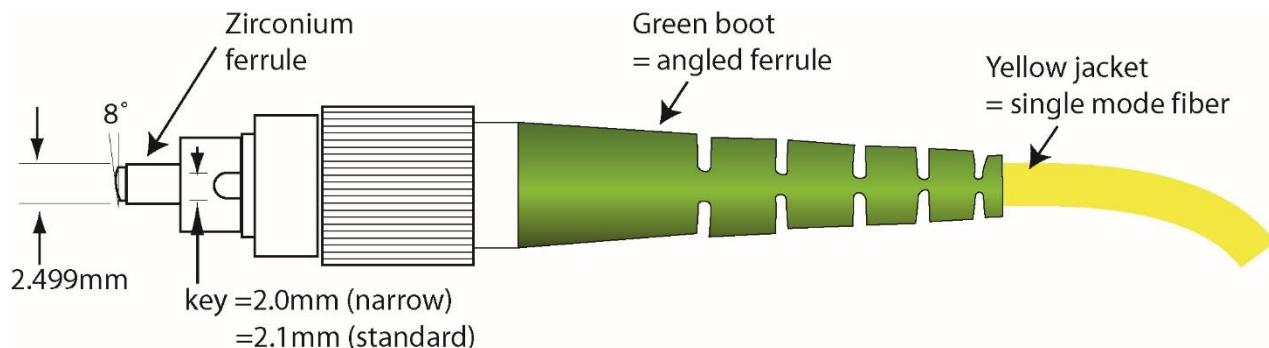

Figure 1 FC/APC connector
This is only an FC connector problem. For crazy historical reasons these connectors come in a narrow key (2.0 mm wide) and a standard key configuration (2.1 mm wide) as shown in Figure 1. A narrow key connector with fit in a wide-key bulkhead adaptor, but a wide-key connector will not fit in a narrow key adaptor! Most of the connectors you will find lying around the lab are narrow key. The only way to tell this is to get out digital calipers and measure the key width. If the key on your connector is 2.1mm then check that the bulkhead adaptor doesn't have a slot width of less than 2.1mm (narrow is about 2.05mm).